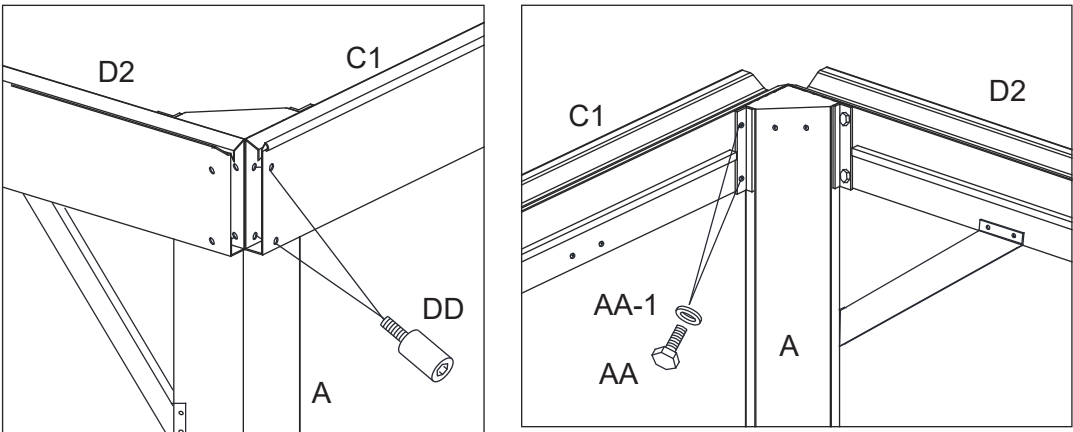

Figure 5-1
- 5.1. Attach Short Lintel (C1 and C2) to Corner Posts (A) first with Bolts (AA) and Steel washer (AA-1) then with Bolts (DD). Tighten Bolts. See Figure 5-1.